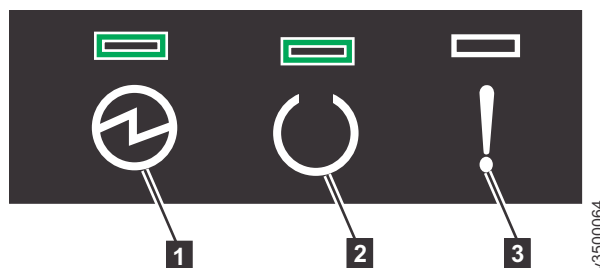

Figure 132. Expansion canister LEDs
2. From the rear of the expansion enclosure, check the LEDs on each expansion canister (see Figure 132).